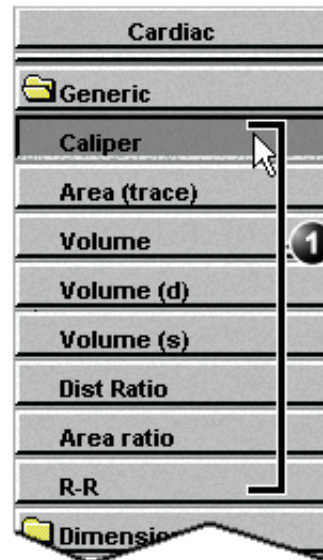

Figure 4-3: the 2D Mode Measurement tools (Cardiac application)
2. If not already selected, select the actual measurement tool (see Figure 4-3).
3. Select **Caliper** in the *Measurement Menu* (see Figure 4-3).
3. Select **Dist. ratio** in the *Measurement Menu* (see Figure 4-3).
3. Select **Area** in the *Measurement Menu* (see Figure 4-3).
3. Select **Area ratio** in the *Measurement Menu* (see Figure 4-3).
3. Select **Volume** in the *Measurement Menu* (see Figure 4-3).
3. Select **Point** in the *Measurement Menu* (see Figure 4-3).